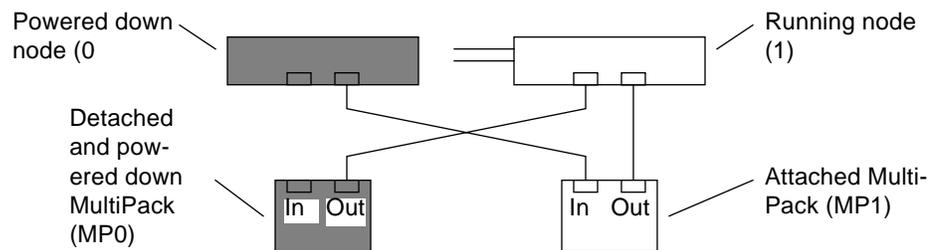

Figure 7-10 First SCSI Cable Detached
6. Physically disconnect the SCSI cable that goes from the detached and powered down MultiPack to the powered down node. (Figure 7-10).